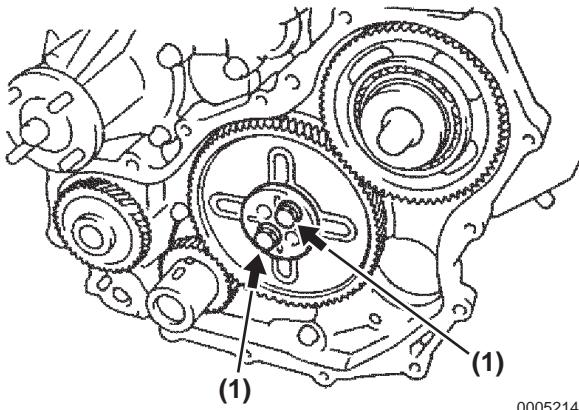

Figure 5-214
10. Install the thrust plate using 2 bolts (**Figure 5-214, (1)**) and torque to 694 kgf·cm, 68.06 N·m (50.2 lb·ft).